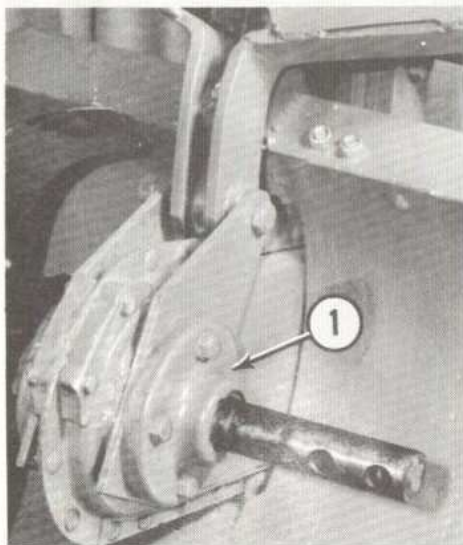

FIG. 45
2. Remove four nuts and remove bearing cap (1), Fig. 45.